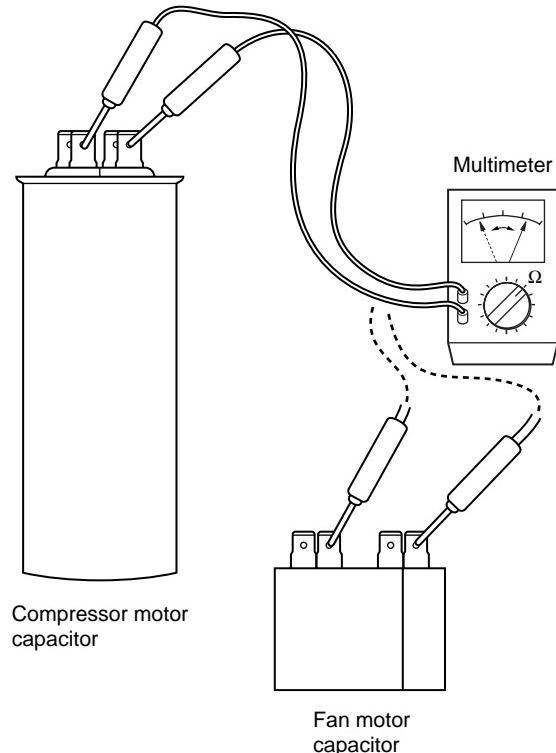

Fig. IV-19
⑤ Motor capacitor Both in indoor and outdoor unit
- Remove the lead wires from the capacitor terminals, and then place a probe on the capacitor terminals as shown in **Fig. IV-19**. Observe the deflection of the pointer, setting the resistance measuring range of the multimeter to the maximum value.